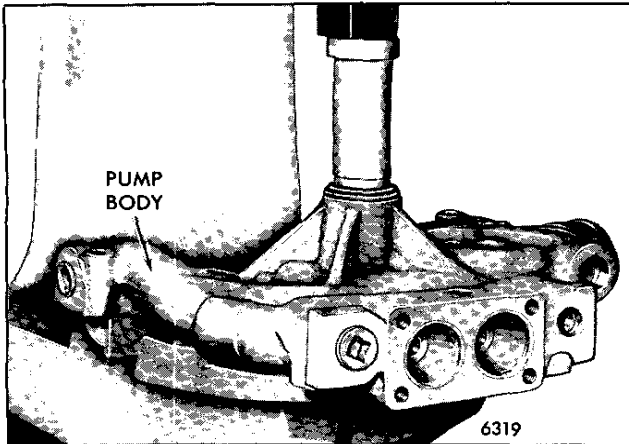

Fig. 6 - Removing Shaft and Bearing Assembly Using Tool J 29189-A
2. Using tool J 29189-A (Fig. 6) press the shaft/bearing assembly, seals and impeller out of the pump body as an assembly by applying pressure on the bearing outer race. Marine low mount and standard low mount pumps require removal of the impeller cover, O-ring and snap ring prior to pressing the bearing assembly out of the pump body.